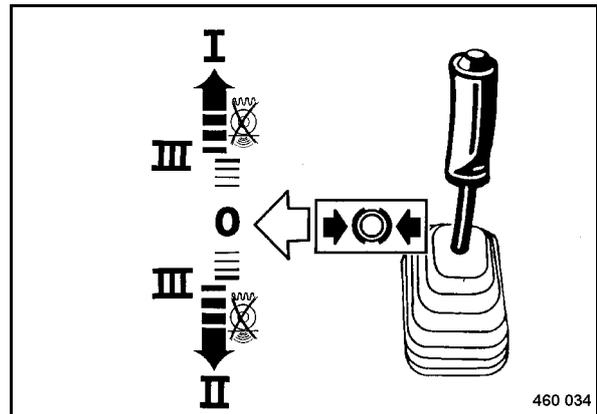

Fig. 51
Control the travel speed only with the travel lever (Fig. 51).
- Disengage the travel lever (Fig. 51) to the left out of braking position and move it slowly through "0"-position to the desired travel direction.